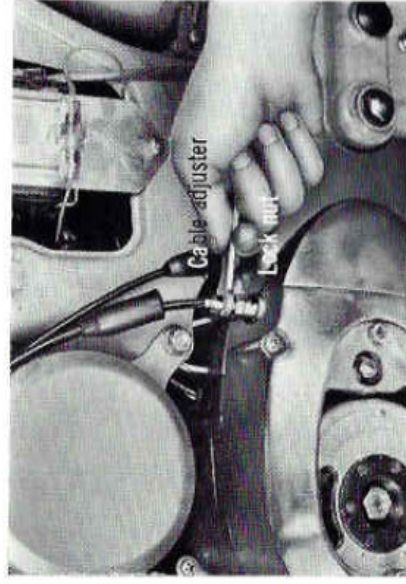

Fig. 10-13
1. Loosen the clutch release screw lock nut 2. Turn in the release adjusting screw until it seat the push rod and then back it out half a turn. 3. Finally secure the adjusting screw with lock nut. * Adjusting with clutch cable adjuster (Fig. 10-13, 14) Adjust the cable adjuster so that 3 mm (0.12 in) of play measured at the clutch lever base is left in the cable.